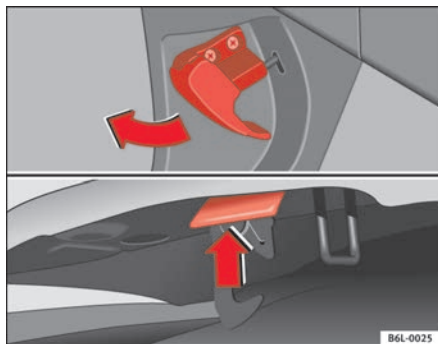

Fig. 125 Arrester hook for bonnet.
- To release the bonnet, pull the lever under the dashboard ⇒ **fig. 125** in the direction indicated (arrow). The bonnet will be released by a spring action ⇒ ⚠.